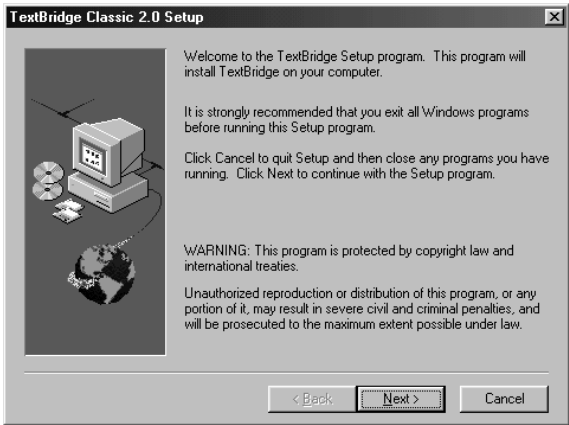

Figure 9: Installing TextBridge Classic 2.0
2. Select the language for TextBridge Classic (US English, UK English, French, Spanish, Italian, or Portuguese). A screen as in Figure 9 is displayed.